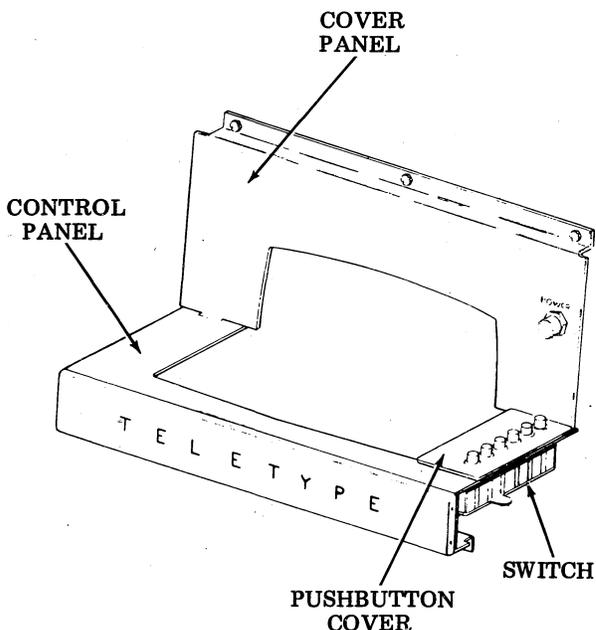

Figure 5 - Cover and Control Panels
2.06 When installing a tape receiver as part of a send-receive station (ie, a sender and receiver at the same site sharing a common telephone line) the 804A Data Auxiliary Set is not required. An optional TP199633 blank panel is available to replace the two panels (TP149782 control panel and TP149783 cover panel) which normally mount the data auxiliary set (Figure 5).